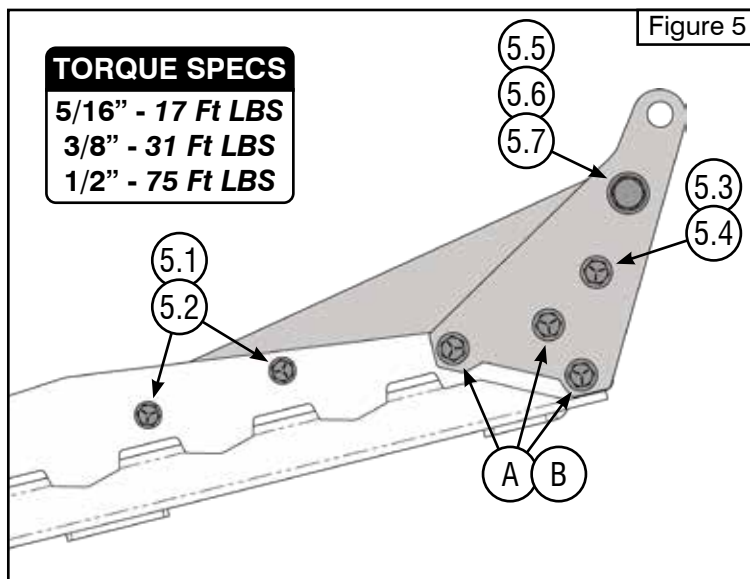

Figure 5
6. Once all hardware is started, tighten all hardware evenly. See **Figure 5**.
4. If holes are not already in the flap, use the dimensions in Figure 5 to drill two holes in the wing flap (2) using a 3/8" drill bit.